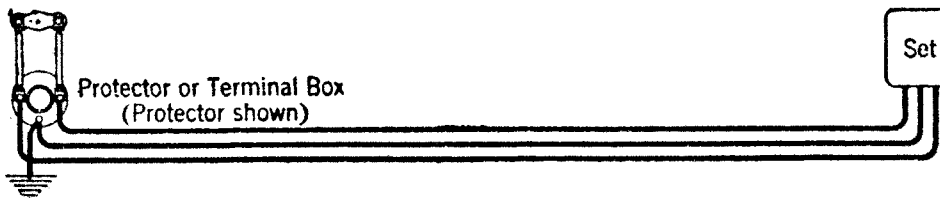

Fig. 3.
5.06 **Wiring to Protector or Terminal Box with Ground Connection:** Use triple wire as shown in Fig. 3.